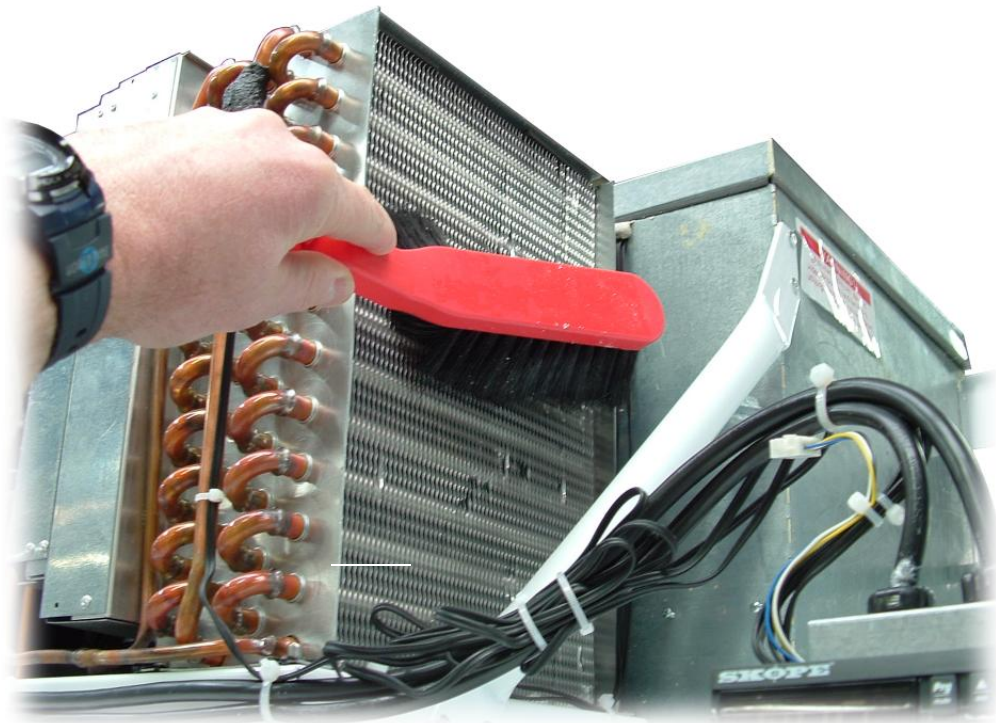

Figure 5: Cleaning the Condenser Coil
To ensure trouble free performance, the condenser coil should be brushed clean once a month (see Figure 5 on page 19) and blown clean by qualified service personnel every six months. If the electronic controller display flashes '**cht**' the condenser coil immediately needs cleaning.
3. The condenser coil is now accessible for cleaning (see Figure 5 on page 19).